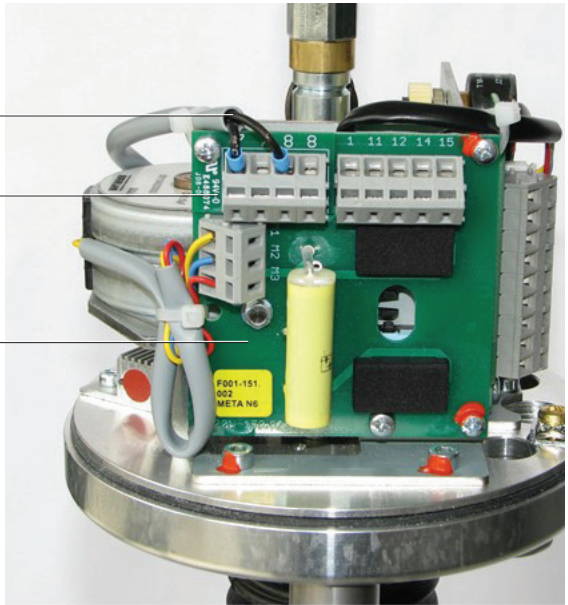

Fig. 14
- Refer to Figures 14 to 19 "Heater Installation 1 - 6 kN (225 - 1349 lbf)" for product orientation and fix the anti-condensation terminal board to the main board with the screws supplied